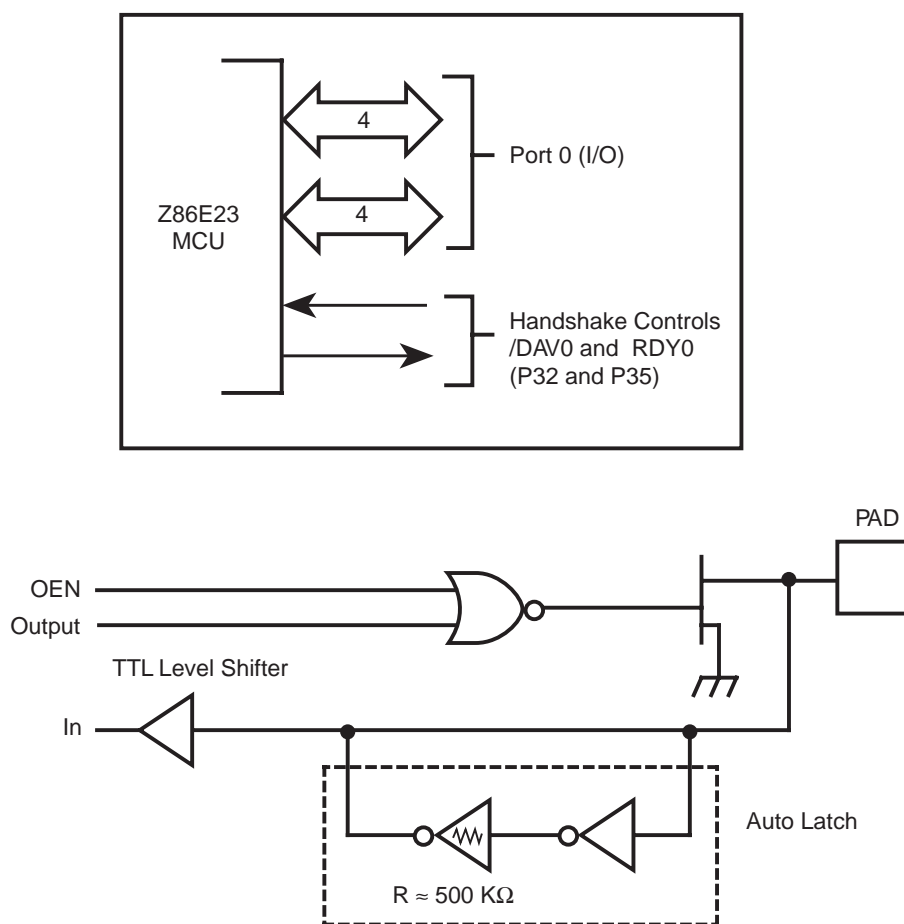

Figure 8. Port 0 Configuration
**Port 0** (P07-P00). Port 0 is an 8-bit, nibble-programmable, bidirectional, NMOS-compatible I/O port. These eight I/O lines can be configured under software control as a nibble input port, or as a nibble open-drain output port. When used as an I/O port, inputs are standard NMOS and outputs are open-drain (Figure 8).